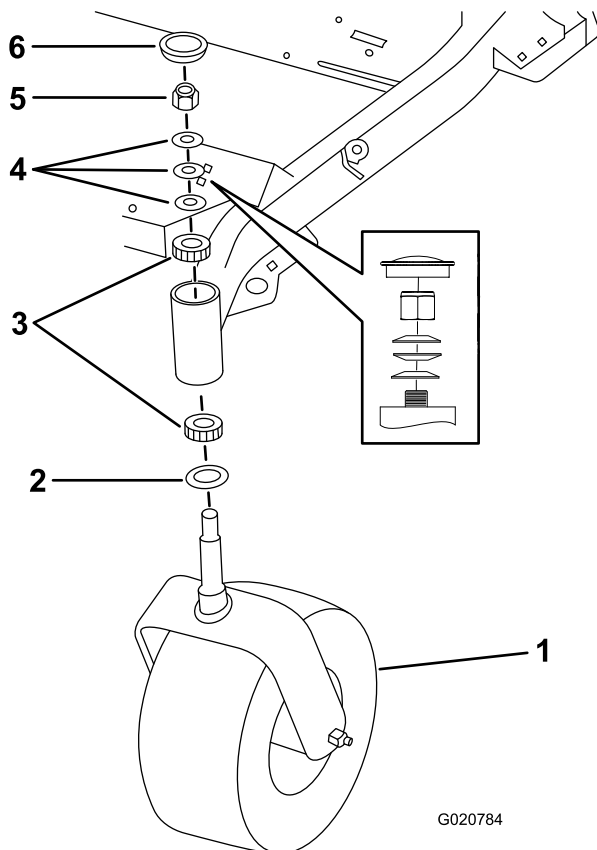

Figure 3
Remove the grease cap, locknut (3/4 inch), and the caster wheel assembly from the machine (Figure 3).
3. Tighten the locknut until the spring washers are flat and then back off a 1/4 turn to properly set the pre-load on the bearings (Figure 3).